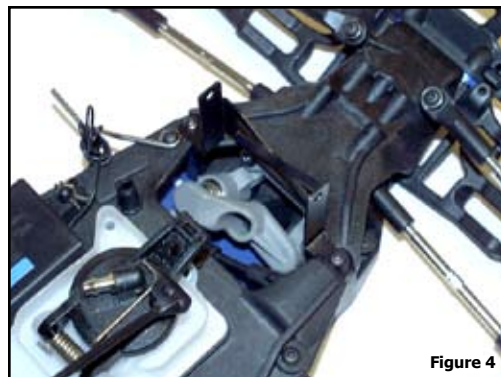

Figure 4
**3.** Attach *Cage Mount 2* to the upper chassis plate, using the 2 screws as shown in *Figure 4*. Leave